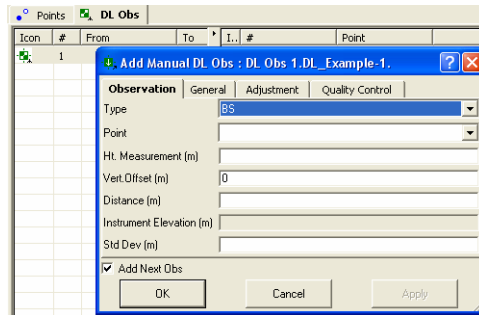

Figure 5-106. Add Manual DL Obs Dialog Box
- After clicking OK in the *Add Manual DL Run* dialog box, the *DL Obs* tab and the *Add Manual DL Obs* dialog box will display (Figure 5-106)